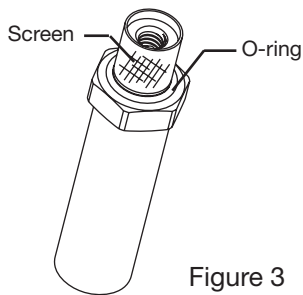

Figure 3
6. Remove the screen and the O-ring from the inlet fittings. (See Figure 3).
7. Using the O-ring grease provided, lubricate and install the new O-ring "A" provided onto the adapters (D).
8. Install threaded adapter (E) over the inlet fittings, being careful to insure that the O-ring seats in counter-bore on the underside of the adapter.
9. Install the stainless steel washer (F) on to the adapter.
10. Install the stainless steel hex screw (G) to retain the washer. Tighten using $\frac{3}{16}$ " Allen Wrench.
12. Install the union nut (H) over the flanged adapter and thread the flanged adapter (I) onto the A2-M1 body inlet. Tighten hand tight.
13. Lubricate and install the O-ring "C" onto the valve sleeve (K).